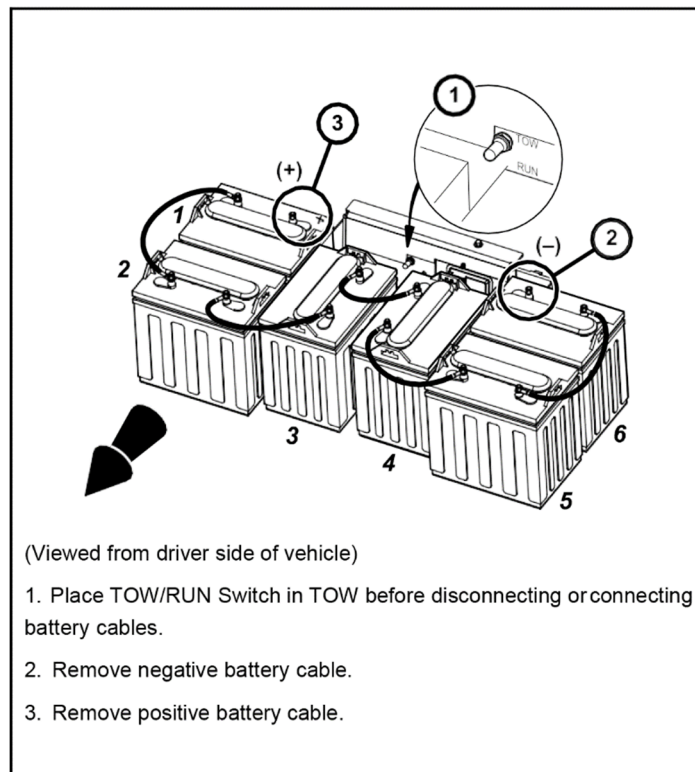

Fig. 1
4. Disconnect the stock lead acid battery cables based on (Fig. 1)